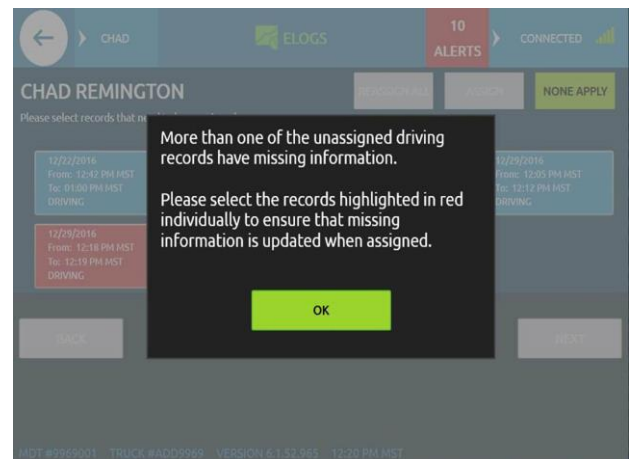

Figure 4.10
- If there are previous uncertified days, the driver will be prompted to certify their logs during the login/logout process. (Fig 4.10)